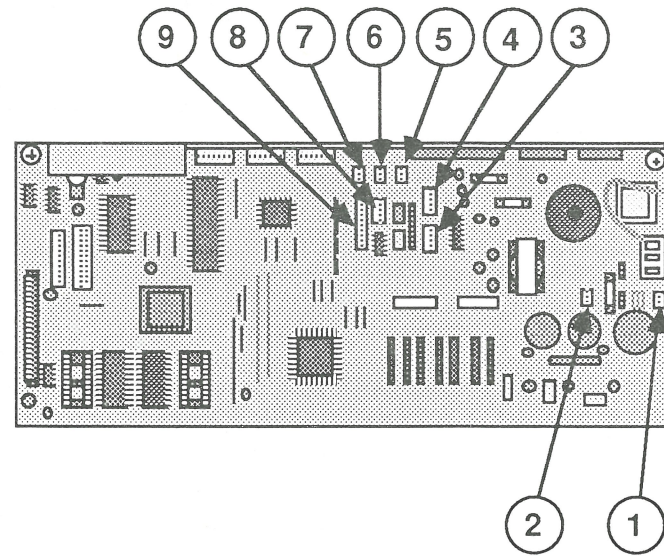

FIGURE 49
- Auto-load solenoid cable from CN8 (Figure 49, #1)
- Cut sheet feeder switch cable from CN11 (Figure 49, #2)
- Carrier motor cable from CN5 (Figure 49, #3)
- Paper-out sensor cable from CN9 (Figure 49, #4)
- Paper-detect switch cable from CN12 (Figure 49, #5)
- Platen gap position sensor cable from CN18 (Figure 49, #6)
- Home position switch cable from CN10 (Figure 49, #7)
- Paper feed motor cable from CN6 (Figure 49, #8)
- Color ribbon assembly cable from CN7 (Figure 49, #9)